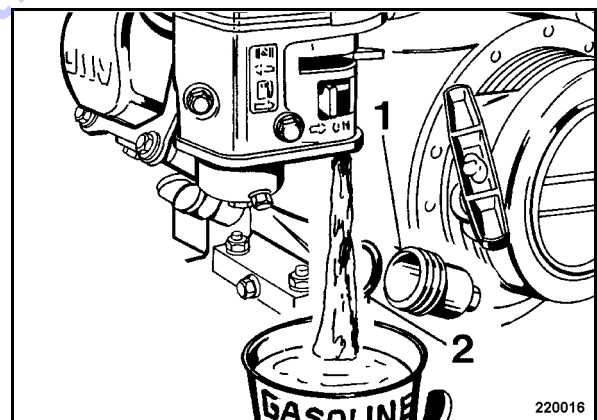

Fig. 41
- Unscrew the fuel sludge filter 1 (Fig. 41) and drain off all gasoline.
- Screw the fuel sludge filter with sealing ring (2) in tightly.